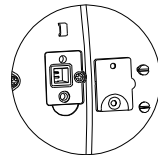

Figure 4-2. LFT pins.
2. Remove the Security Cover under the scale to access the two pins located in a slot (see figure 4-2). Short these pins (a slotted screwdriver may be used), while powering the scale **ON**. The scale will perform the start-up procedure, and then the display will show the current status [Lft OFF] (LFT OFF, unlocked) or [Lft ON] (LFT ON, locked); press the 'No' key to change this setting, or press the 'Yes' key to confirm it.